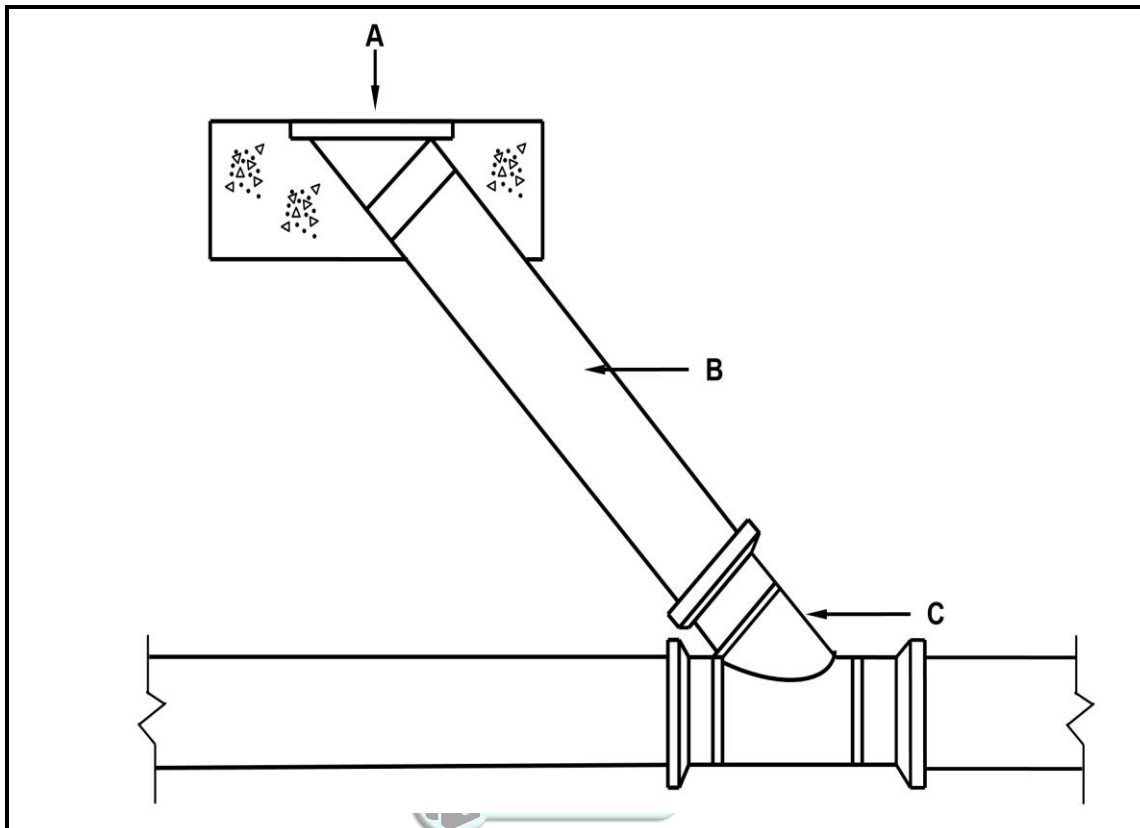

FIGURE 6.2
- D None of the above-mentioned (1)
6.2 FIGURE 6.2 below shows a part of a sewerage system. Study the drawing and answer the questions that follow.